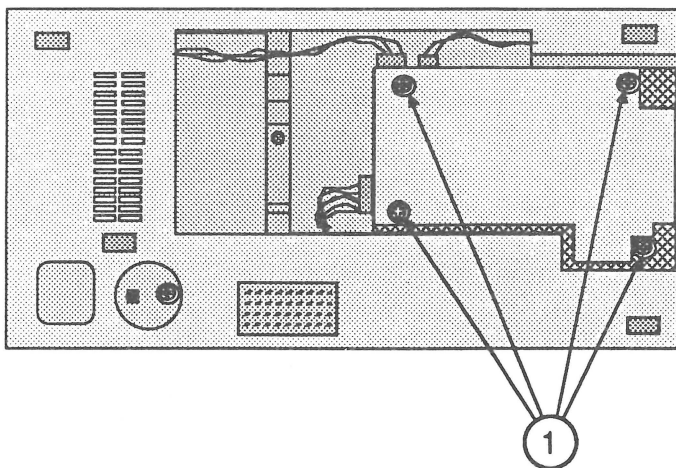

FIGURE 35
3. Remove the four screws (Figure 35, #1) that hold the PCB to the case.